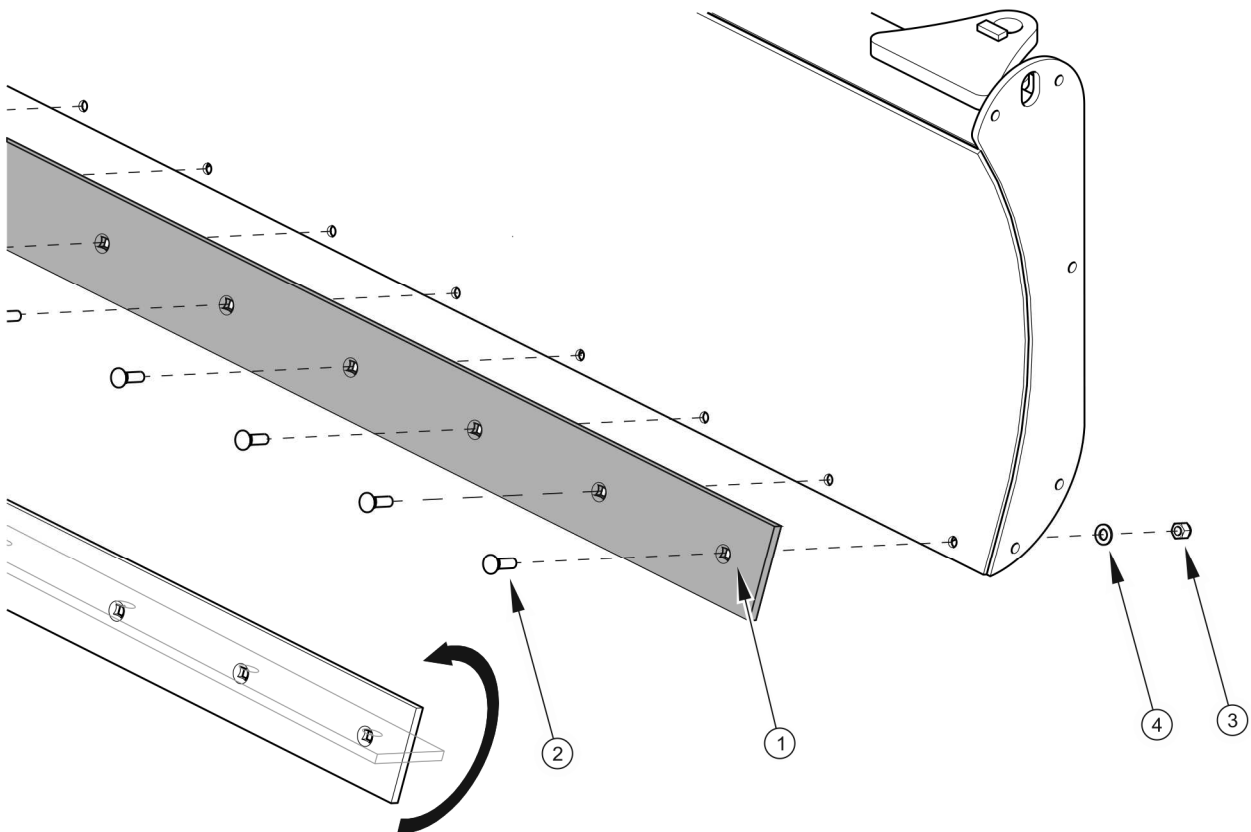

FIGURE 5.1 Blade replacement
(1) - steel blade; (2) - bolt Z M12x40; (3) - self-locking nut M12; (4) - washer 12
To remove a steel blade, (*FIGURE 5.1*) undo nuts (3), remove washers (4) and take out bolts (2). The steel blade is reversible and can be turned by 180°. Excessively worn or damaged blade must be replaced with a new one- (*TABLE 5.1*).